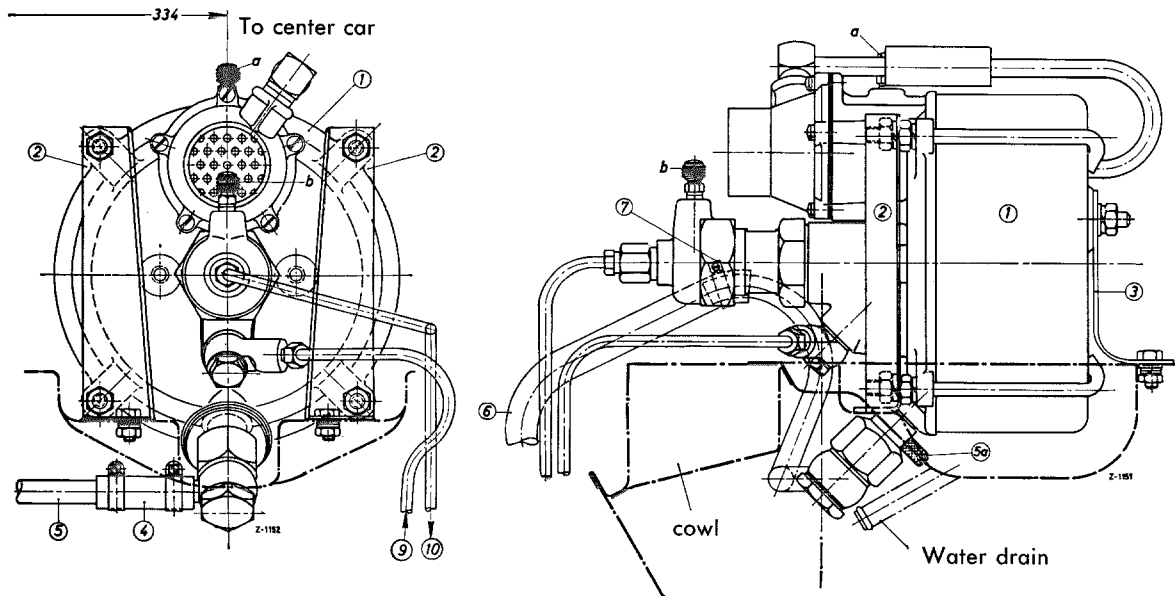

Fig. 42-14/1
1. Unscrew the hollow screw of the annular nipple for the vacuum line (5) working from the interior of the car. Detach the hose clip at the annular nipple and remove the nipple from the connecting hose (4) (Fig. 42-14/1).
3. Disconnect the cables of the stop light switch at the annular nipple and disconnect the brake line (10) (Fig. 42-14/1).
4. Disconnect the brake line (9) on the power brake. Unscrew the hexagon nuts fixing the power brake to the front brackets (2) from the interior of the car and remove together with lock washers and washers (see Fig. 42-14/1).
5. Unscrew the hexagon nut, attaching the power brake to the rear bracket (3) and remove together with lock washer and washer.
6. Remove the power brake upward and unscrew the two front brackets (2) from the power brake (see Fig. 42-14/1).